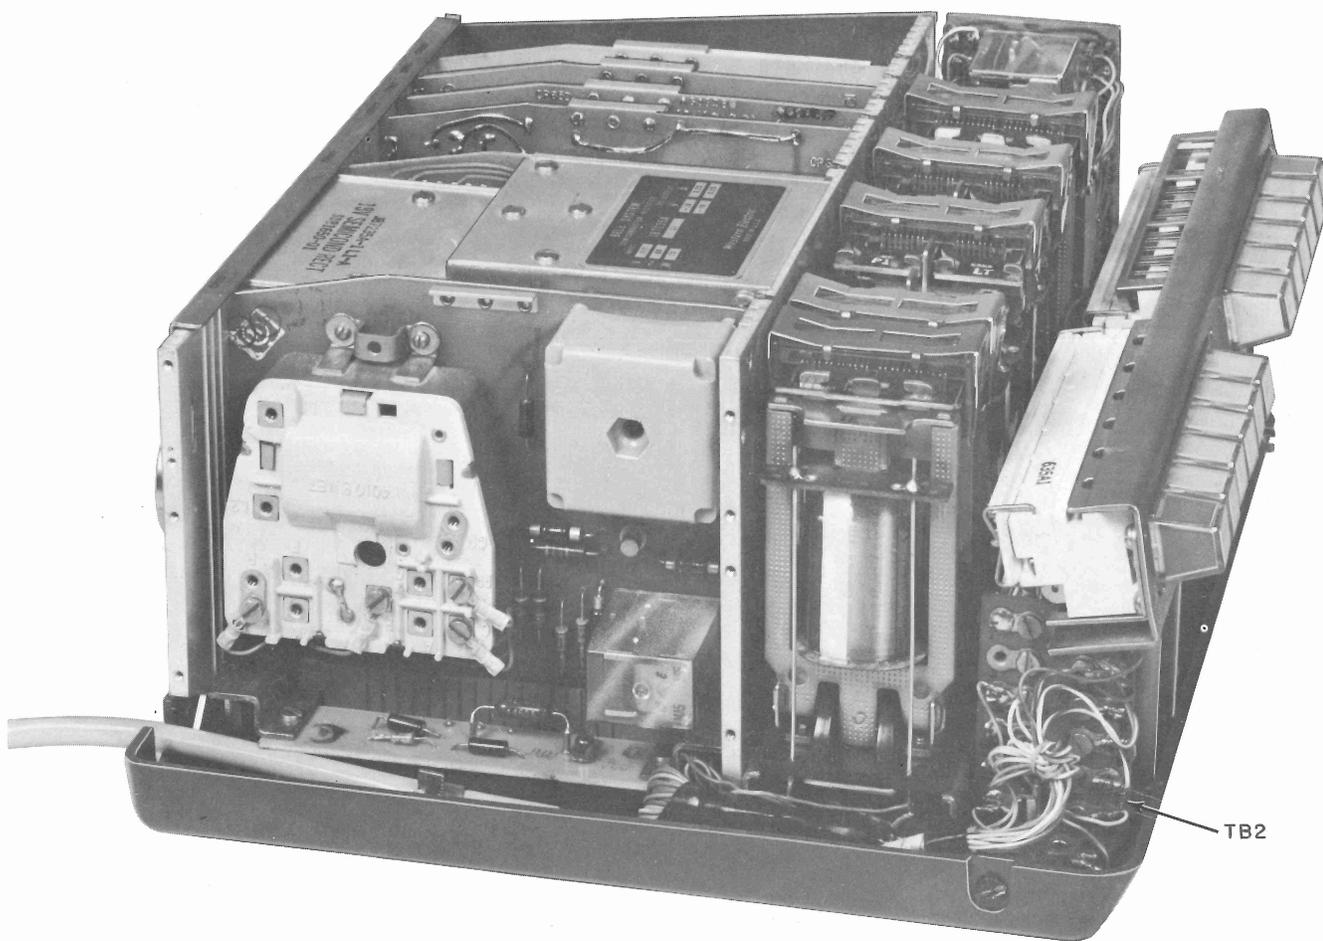

Fig. 8 — Data Auxiliary Sets 801C1 and 801C2 — Cover Removed Showing TB2 Terminal
- (b) Loosen terminal screws at TB2 (Fig. 8) and remove the spade-tipped leads of the mounting cord.
- (h) Connect spade-tipped leads of new cord to terminals of TB2 as indicated in Table D. (Refer to Fig. 8).